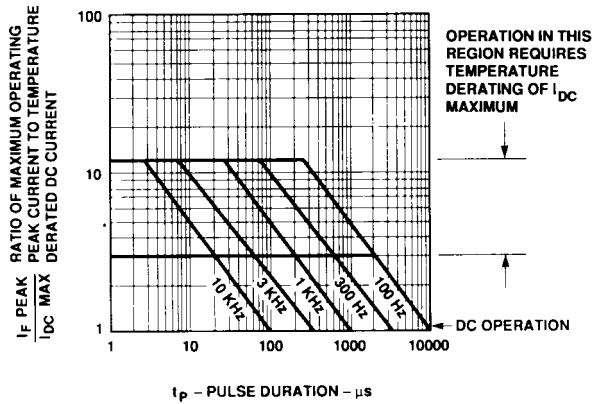

Figure 8. Allowable Peak Current vs. Pulse Duration - Green Series.
7. See Figure 8 to establish pulsed conditions.